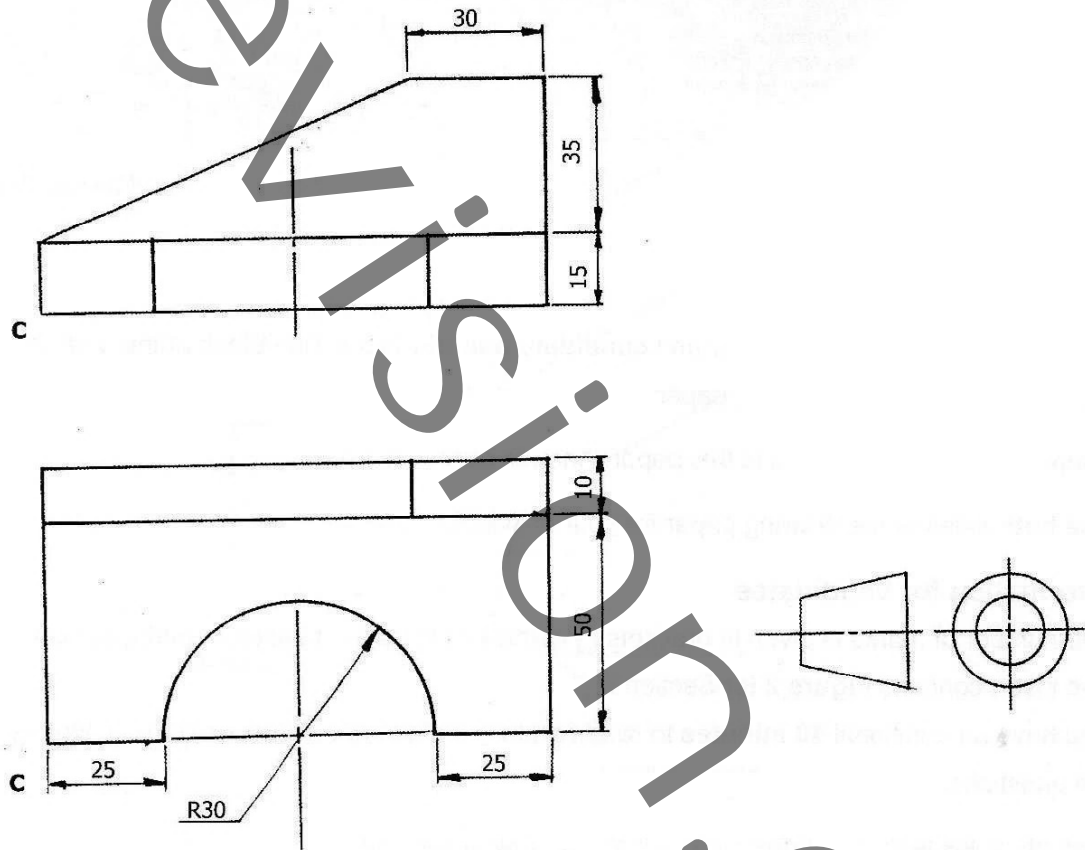

Figure 1
- 1 Orthographic views of a BRACKET are shown in First Angle Projection in **Figure 1**. Sketch freehand and in good proportion, a pictorial view of the bracket with 'C' in the foreground of the view.